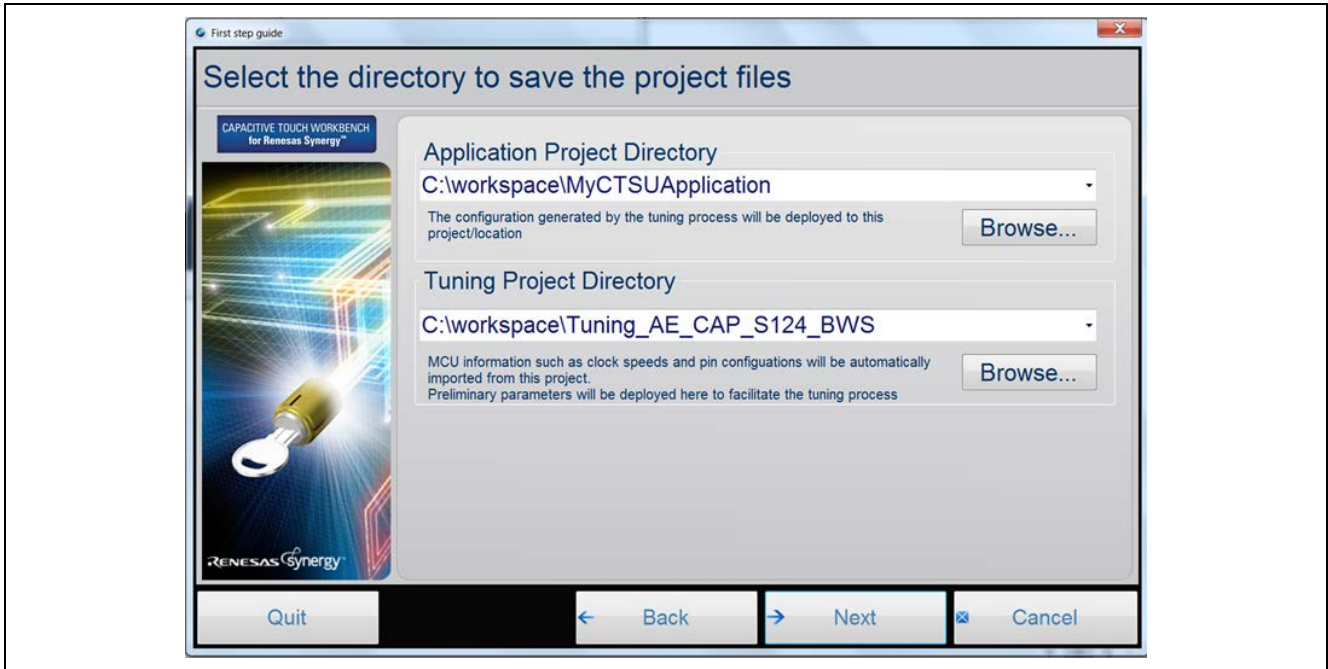

Figure 8. Select Tuning Project and Application Project Directories
3. Under **Application Project Directory** in Figure 8, browse to the root directory of the application project if you have created one. After the tuning is complete, the application creates the **captouch_configs** folder in the **\src** directory of the application project. This folder stores the tuning results that your application